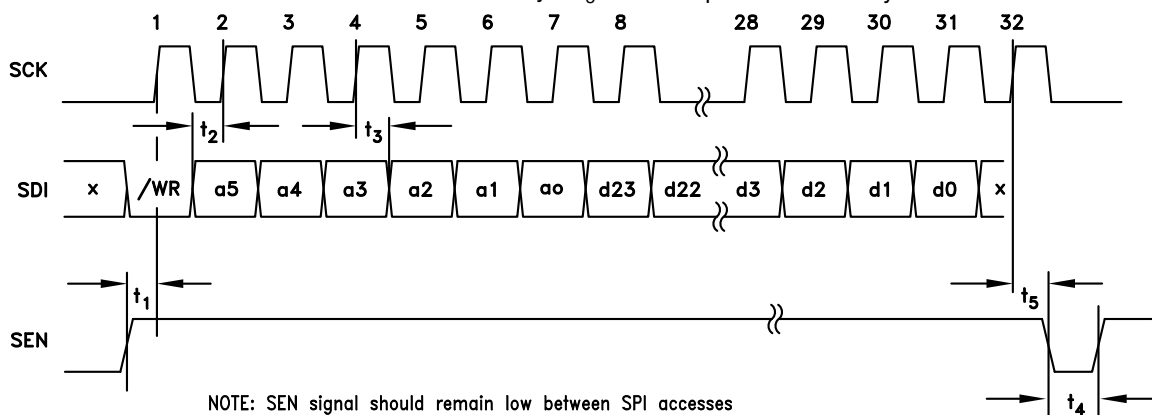
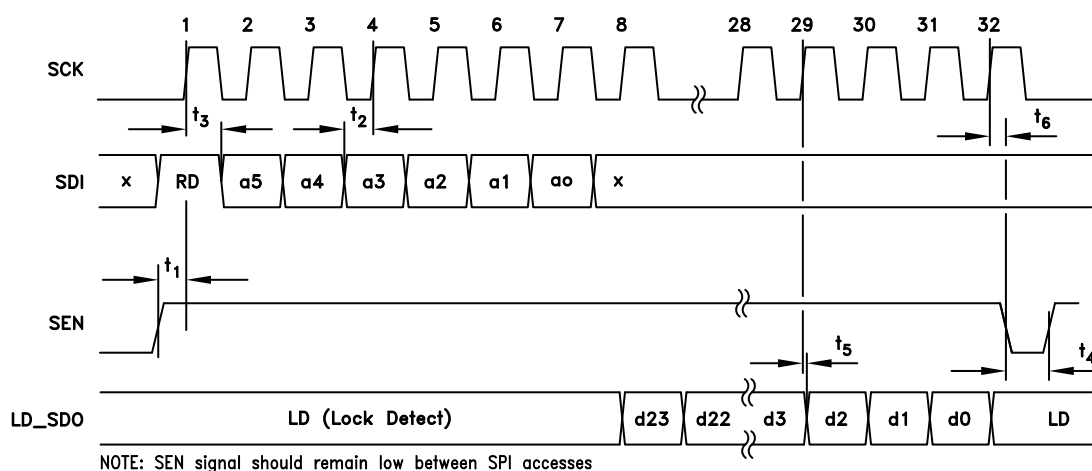

Figure 24. HMC Mode - Serial Port Timing Diagram Write
Figure 25. HMC Mode - Serial Port Timing Diagram - READ
The HMC Mode protocol, shown in Figure 24 and, Figure 25 is designed for a 4 wire interface with a fixed protocol featuring
A typical HMC Mode WRITE cycle is shown in Figure 24.
A typical HMC Mode READ cycle is shown in Figure 25.
- The Master (host) asserts both SEN (Serial Port Enable) and SDI to indicate a READ cycle, followed by a rising edge SCLK. Note: The Lock Detect (LD) function is usually multiplexed onto the LD\_SDO pin. It is suggested that LD only be considered valid when SEN is low. In fact LD will not toggle until the first active data bit toggles on LD\_SDO, and will be restored immediately after the trailing edge of the LSB of serial data out as shown in Figure 25.
- The slave (HMC1033LP6GE) reads SDI on the 1st rising edge of SCLK after SEN. SDI high initiates the READ cycle (RD)
The HMC1033LP6GE communicates with the internal VCO subsystem via an internal 16 bit VCO Serial Port, (e.g. see Figure 25). The internal serial port is used to control the step tuned VCO and other VCO subsystem functions, such as RF output divider / doubler control and RF buffer enable.